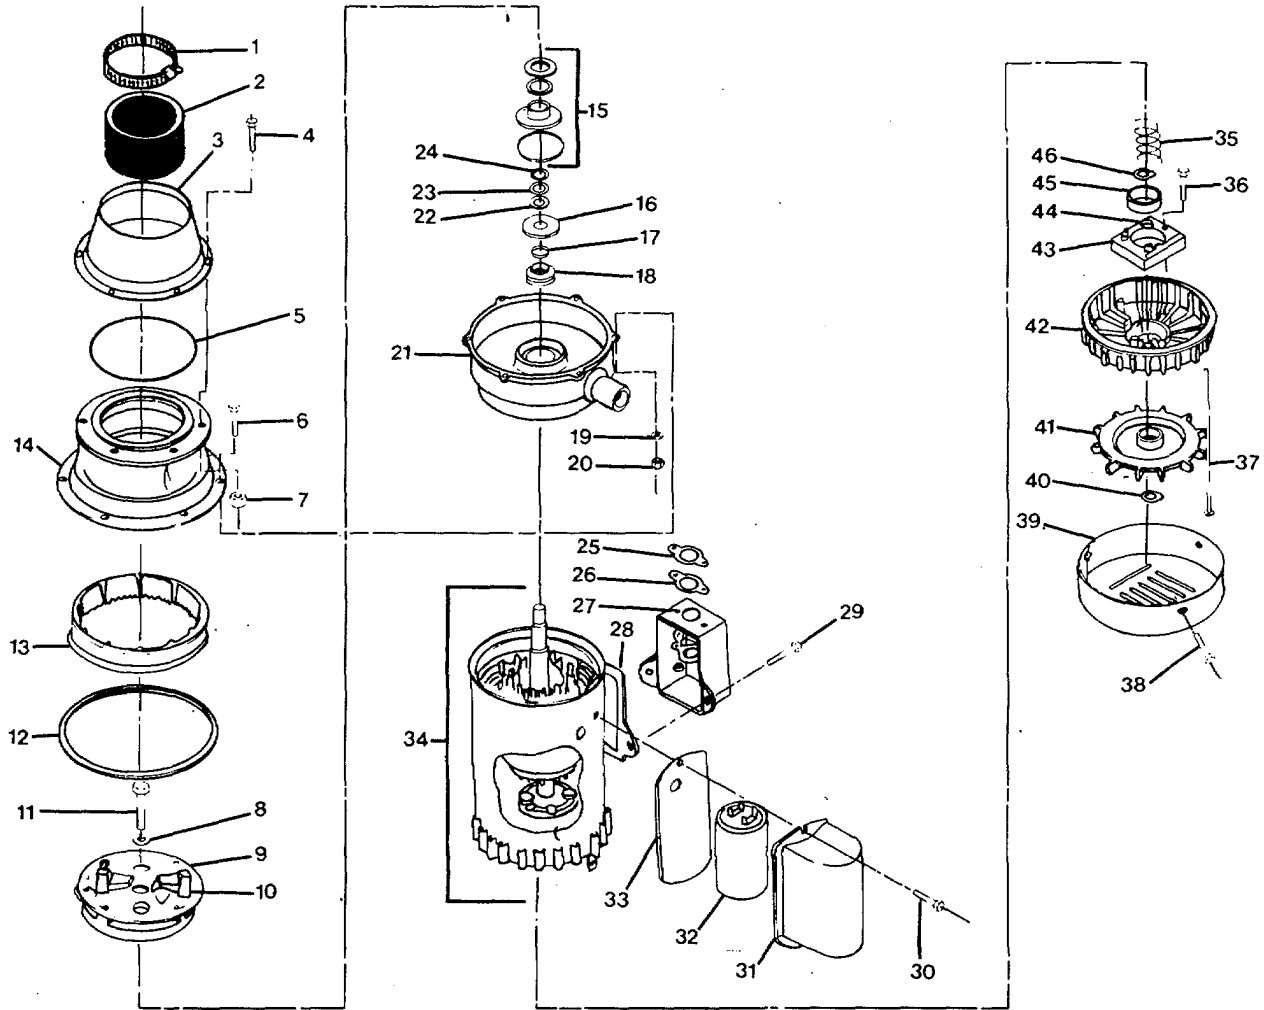

Figure 3-1. *Waste Disposer - Exploded View.*
- (1) Disassemble the upper housing for parts replacement as follows (FIGURE 3-1).
- (a) Remove the quick mount clamp (1, FIGURE 3-1) and the hush cushion (2) from the top (inlet) to the upper housing (3).
- (b) Remove the screws (4) and nuts (7) and remove the housing (3) and gasket (5).
- (c) Remove the screws (6), nuts (20), and washers (19), and remove the housing (14) and gasket (12).
- (d) Remove the turntable screw (11) and washer (8) from the end of the motor shaft and remove the turntable (9). Remove the rippers (10) from the turntable (9).
- (e) Lift the grind ring (13) from the housing (21).
- (f) Remove the seal set (15), shims (22, 23, 24), slinger (16), and spacer (17) from the end of the motor shaft.
- (2) Assemble the upper housing as follows (FIGURE 3-1).
- (a) Apply a light coat of oil to the motor shaft and install the spacer (17), slinger (16), shims (22, 23, 24), and seal set (15) onto the shaft.
- (b) Position the grind ring (13) in the motor end housing (21).
- (c) Install the rippers (10) on the turntable (9).
- (d) Install the turntable washer (8) and screw (11).
- (e) Position the gasket (12) and the housing (14) on the motor end housing (21). Install the screws (6), washers (19), and nuts (20) and tighten alternately from one side to the other. Tighten until snug.
- (f) Position the gasket (5) and housing (3) on the lower housing (14) and install screws (4) and nuts (7). Tighten the screws alternately from one side to the other. Tighten until snug.
- (g) Place the hush cushion (2) and quick-mount clamp (1) on the housing (3). Tighten the clamp just enough to hold it in position until the waste disposer is replaced back onto the sanitary unit.
- (1) Test the ac motor as follows (refer to FIGURES 3-1 and 3-2):
- (f) Turn the electrical power OFF to the sanitary unit and check the capacitor (32, FIGURE 3-1) as follows:
- 1 With the electrical power OFF, remove the machine screws (30, FIGURE 3-1). Remove the capacitor case (31) for access to the capacitor (32). Discharge the capacitor before removing. Avoid contact with motor and capacitor while discharging to avoid electrical shock.
- 4 Check the capacitor (32) against a known good capacitor. Connect the electrical leads to their proper terminals on the capacitor.
- 5 Install the case (31) with the screws (30) to hold the capacitor in place.
- a. Disassemble the ac motor for parts replacement as follows (refer to FIGURE 3-1).
- (1) Disassemble the upper housing from the motor. Refer to paragraph 3-9a.
- (2) Remove the screws (29, FIGURE 3-1) and the conduit box (27) and gasket (28). Remove gasket plate (25) and gasket (26).
- (3) Remove the machine screws (30) and remove the capacitor case (31).
- (4) Disconnect and tag the electrical leads to the capacitor (32). Remove the capacitor and gasket (33).
- (5) Remove the bearing (18, FIGURE 3-1) from the motor end housing (21) as follows:
- (a) Remove the three screws (38) and remove the fan guard (39) from the motor.
- (b) Remove the four thru-motor bolts (37) from the motor (34). This will disconnect the motor housing (21).
(6) Remove the lock ring (40, FIGURE 3-1) and remove the fan (41), the fan shield (42), and switch (43) from the bottom end of the motor shaft.
(7) Remove screws (36) and remove the switch (43) from the fan shield (42).